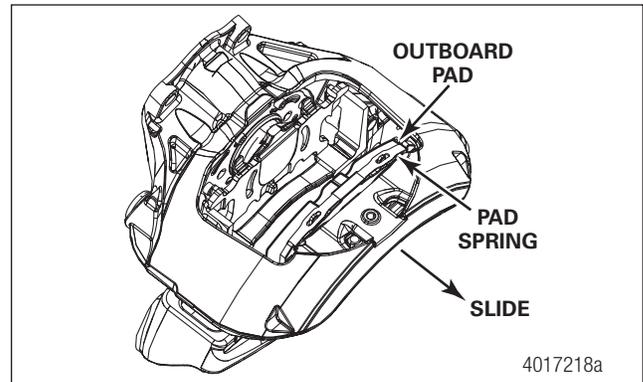

Fig. 6.18 Slide the caliper out.
STEP 1 - Slide the caliper OUTWARD. Install the outboard pad and spring into the outboard side of the caliper. Figure 6.18.